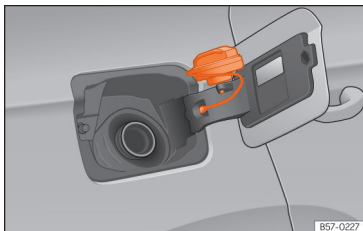

Fig. 188 Fuel tank flap with tank cap attached.
- Place it in the space on the hinge of the open flap >>> **Fig. 188**.